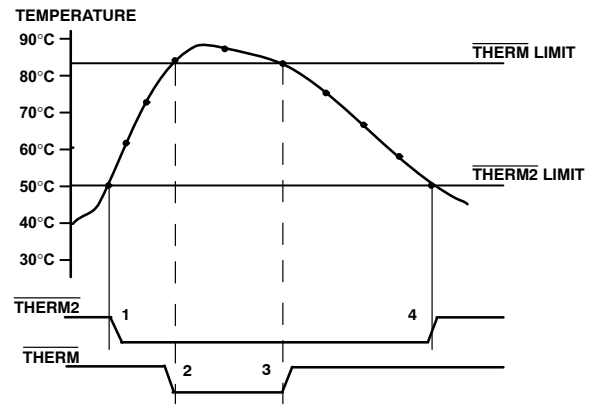

**Figure 20. Operation of the  $\overline{\text{ALERT}}$  and  $\overline{\text{THERM}}$  Interrupts**
Figure 20 shows how the  $\overline{\text{THERM}}$  and  $\overline{\text{ALERT}}$  outputs operate. If desired, use the  $\overline{\text{ALERT}}$  output as a  $\overline{\text{SMBALERT}}$  to signal to the host via the SMBus that the temperature has risen. Use the  $\overline{\text{THERM}}$  output to turn on a fan to cool the system, if the temperature continues to increase. This method ensures that there is a fail-safe mechanism to cool the system, without the need for host intervention.
3. The  $\overline{\text{THERM}}$  output de-asserts (goes high) when the temperature falls to  $\overline{\text{THERM}}$  limit minus hysteresis. In Figure 20, the default hysteresis value of 10°C is shown.